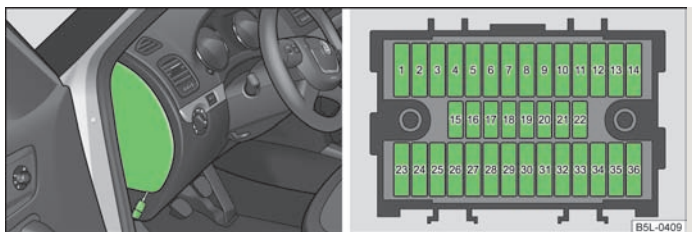

Fig. 167 Fuse box cover in the dash panel/schematic diagram of the fuse box
- Remove the cover for the fuse box using the key to the ignition » Fig. 167.